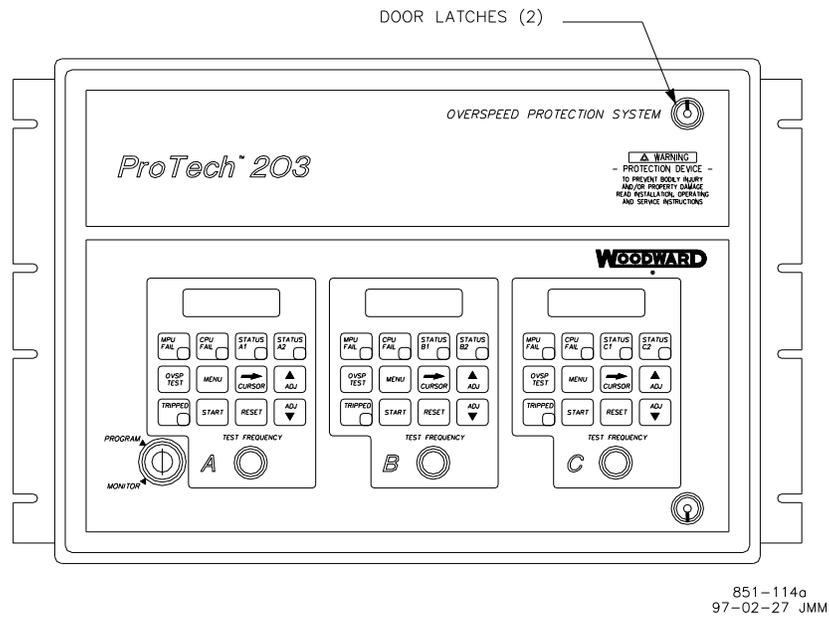

Figure 5-1. ProTech System Front Door
2. To open the front door, turn the two door latches counterclockwise (see Figure 5-1).
2. To open the front door, turn the two door latches counterclockwise (Figure 5-1).